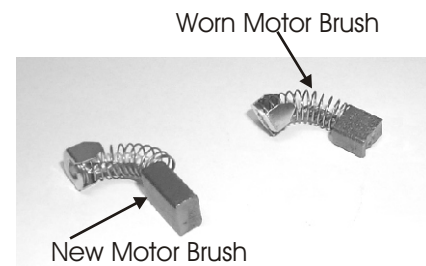

Fig. 19
3. Inspect the brushes for wear (Fig. 19).